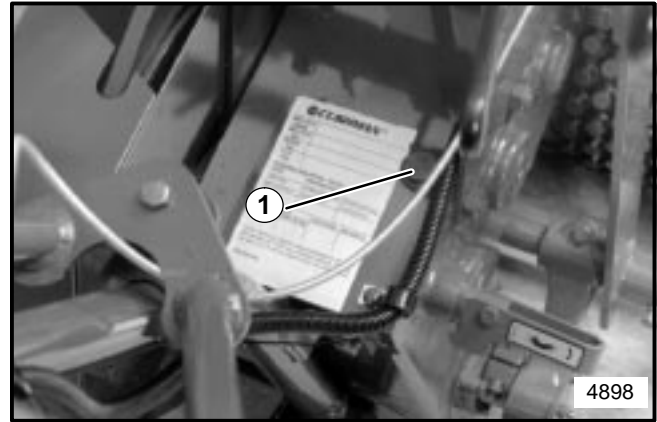

FIGURE 20
- Check oil level in gear case. Refer to Figure 20.